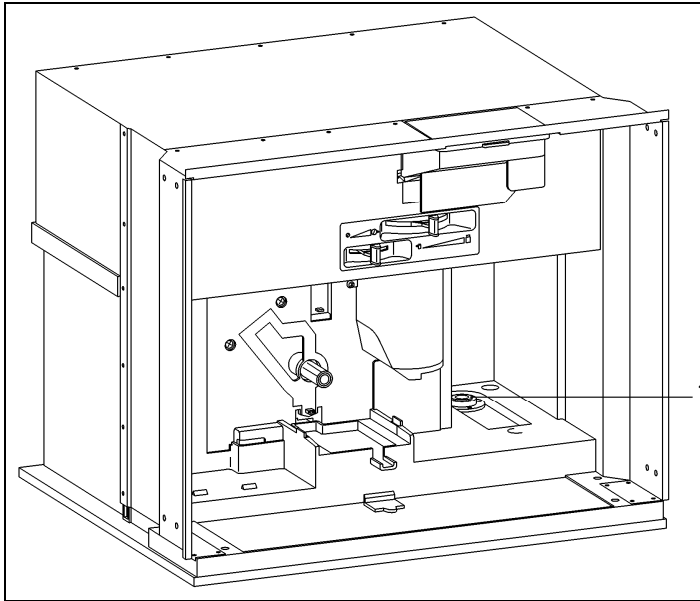

Figure 5-43: Removing the Lip Seal
4. Remove the seal (Figure 5-43, Item 1).